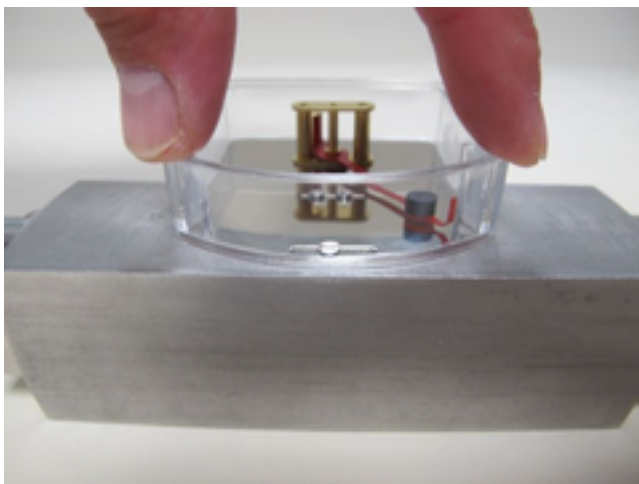

Fig. 74: Display housing Install
- 16.** Place the plastic housing on the display base plate and press down until it snaps into place. (*Fig. 74*)